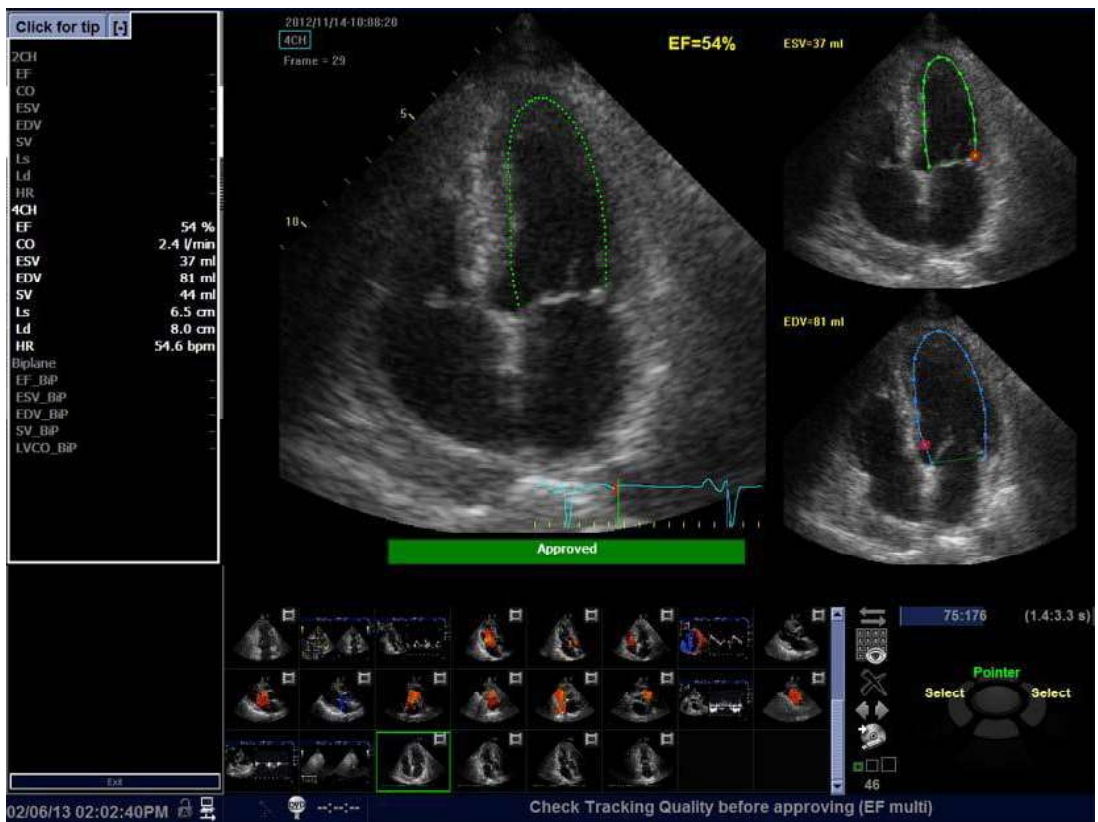

Figure 13-161. AutoEF Result Multi Screen
When processing is complete the EF results screen is displayed (Figure 13-161 on page 13-290 ).
**NOTE:** *The bi-plane results (BiP) will only appear on screen (Figure 13-161 ) after measuring both 2-Ch and 4-Ch views.*
For each of the views, a results screen containing the EF calculation, appears (Figure 13-161 on page 13-290 ) in a mini-report. The mini-report appears on the left side of the results window.